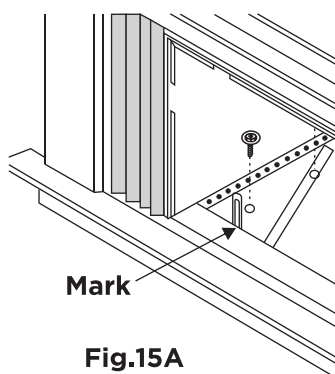

Fig.15A
- Hold each support bracket flush against outside of sill, and tight to bottom of cabinet as shown in Fig.15A. Mark brackets at top level of sill and remove.